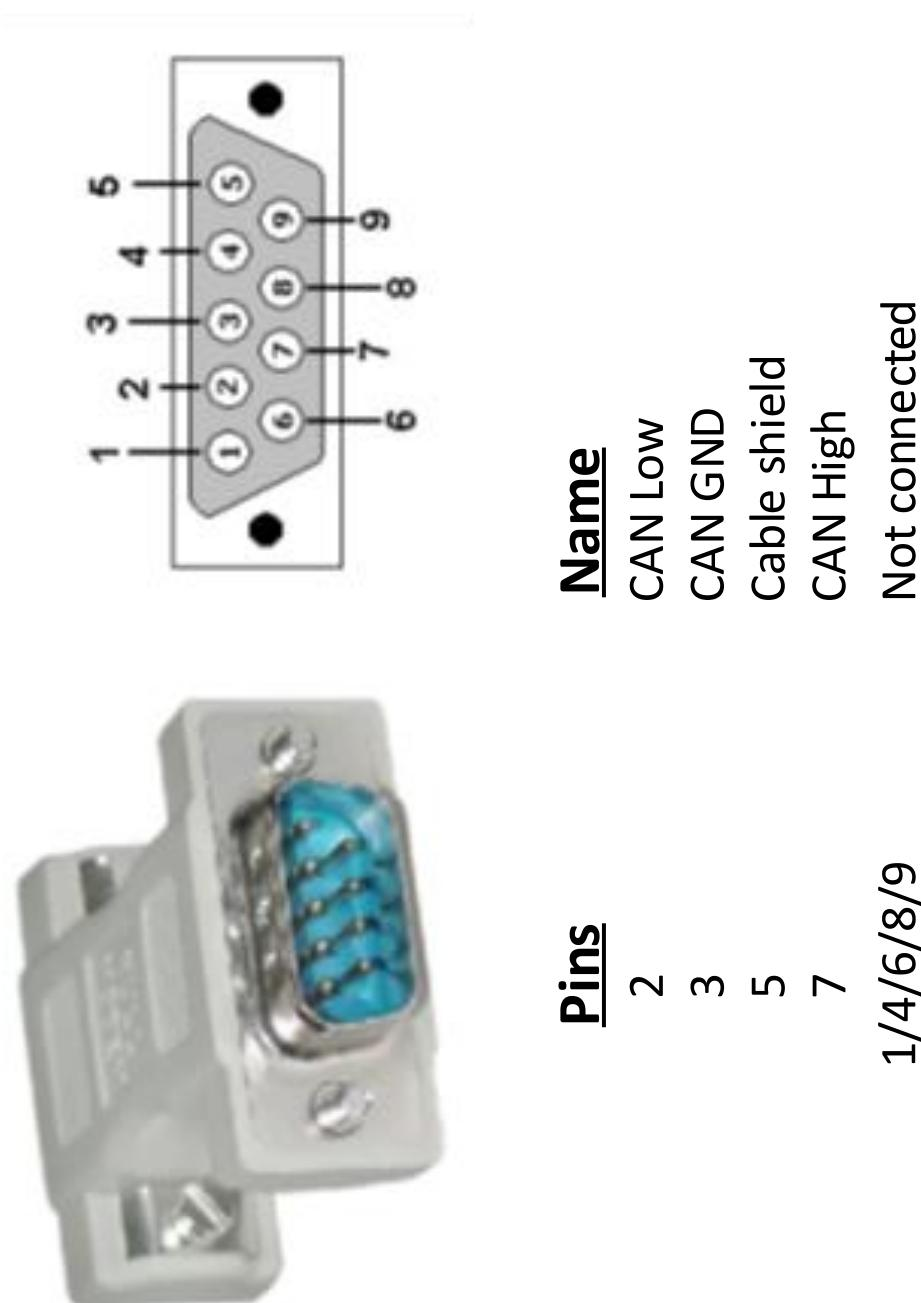

Figure 3.26: DB9M(SH): Shielded DB9 (Male)
- Picture and pinout: see figure 3.26